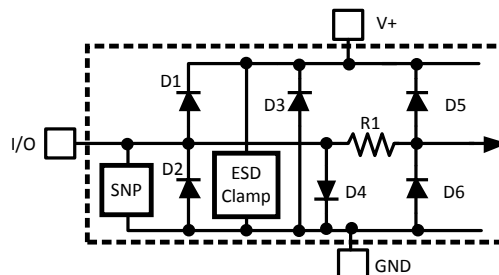

Figure 1. ESD Protection Input Structure
- (1) Absolute Maximum Ratings indicate limits beyond which damage to the device may occur. DC and AC electrical specifications do not apply when operating the device beyond its rated operating conditions.
- (2) When the input voltage (V_I) at any pin exceeds the power supplies ($V_I < \text{GND}$ or $V_I > V_{\text{DD}}$), the current at that pin should be limited to 5 mA. Parasitic components and or ESD protection circuitry are shown in Table 1 and Figure 1 for the LM86's pins. The nominal breakdown voltage of D3 is 6.5 V. Care should be taken not to forward bias the parasitic diode, D1, present on pins: D+, D-. Doing so by more than 50 mV may corrupt a temperature measurements.
- (3) See the URL "<http://www.national.com/packaging/>" for other recommendations and methods of soldering surface mount devices.
- (4) Human body model, 100pF discharged through a 1.5k Ω resistor. Machine model, 200pF discharged directly into each pin.